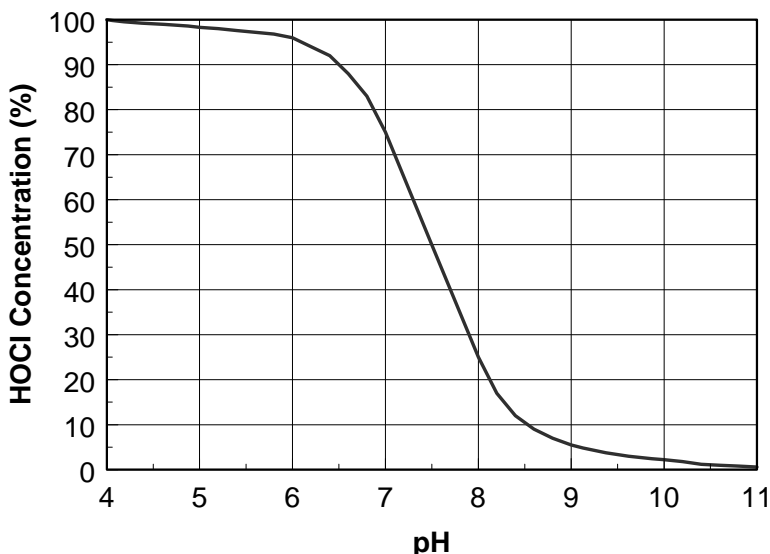

Fig. 1. Chlorine activity decreases as water pH increases.
- The lower the water pH, the more the chlorine exists as HOCl (Fig. 1).
From Fig. 1, the HOCl concentration at pH 7.5 is 45%, and at pH 6.5 HOCl = 90%.